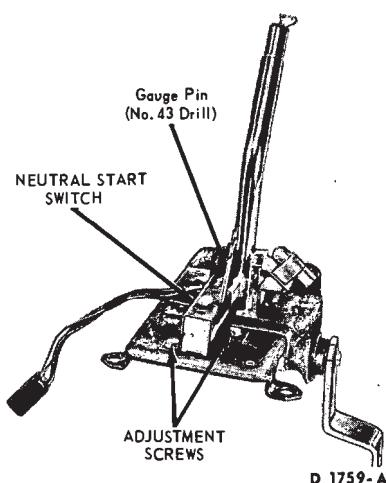

FIG. 14—Neutral Start Switch Adjustments—Console Shift—Fairlane-Montego
6. Loosen the two combination starter neutral and back-up light switch attaching screws (Fig. 14).
7. Move the selector lever back and forth until the gauge pin (No. 43 drill) can be fully inserted into the gauge pin holes (Fig. 14).
7. With the selector lever in neutral, move the selector lever back and forth until the gauge pin (No. 43 drill) can be fully inserted into the gauge pin holes (Fig. 14).